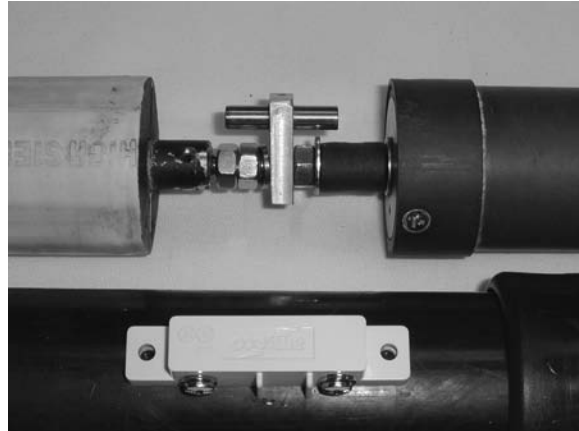

Figure 3: Alignment
- (14) Now is a good time to perform the antenna manufacturer's scheduled maintenance on your antenna, such as washing and periodic cleaning. See your High Sierra manual.
- (15) Temporarily screw the quick-disconnect (or other whip fixture) back into the top of the coil form.
- (16) Place the coil and motor assembly side-by-side with the motor's mounting holes aligned with the motor mounting holes in the main shaft. Observe how far the coil form and quick disconnect extend past the top end of the main shaft.
- (17) Note the position of the magnet relative to the main shaft and make a corresponding mark on the outside of the main shaft. Make a permanent mark for future reference. (Fig. 3)
- (18) Slide the motor/coil assembly into the bottom of the main shaft the appropriate distance. Use the temporarily-installed whip fixture to manually rotate the motor/coil assembly until the motor mounting holes line up. Or, you can grasp the whip fixture with pliers and rotate the main shaft to align the motor mounting holes. If you removed the plastic bumper and the lower weather shield cap for cleaning, reinstall them on the main shaft.
- (19) Install the 2 motor mounting screws.
- (20) Temporarily secure the switch (Fig.3) to the main shaft (the outer, black plastic tube) with a piece of tape; center the switch over the mark corresponding to the position of the magnet.
- (21) Connect the yellow wire from the MFJ-1922 controller directly to the red wire from the antenna motor.
- (22) Connect the green wire from the MFJ-1922 controller to the white wire from the motor, with the 5-ohm resistor *in series* with the wire. Wrap the connections with electrical tape or other suitable insulating material.